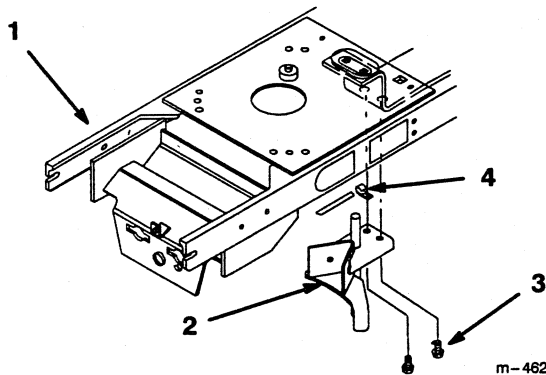

Figure 6
2. Using upstop from kit, install upstop and J-clip onto tractor (Fig. 6).